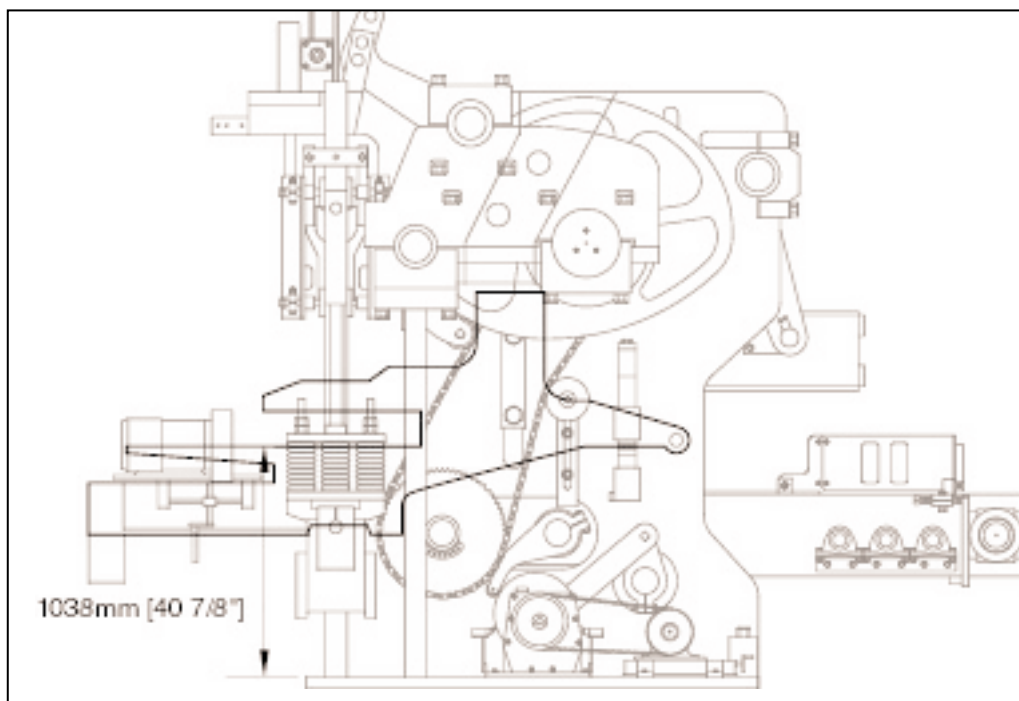

Figure 4.52 INNER FRAME ADJUSTMENT.
4.4.2 Adjust the inner frame so that the mold throat is **1038mm [40.875"]** above the top on the base plate (figure 4.52). **63mm [2 1/4"]** of spacers required. To do so, follow this procedure.